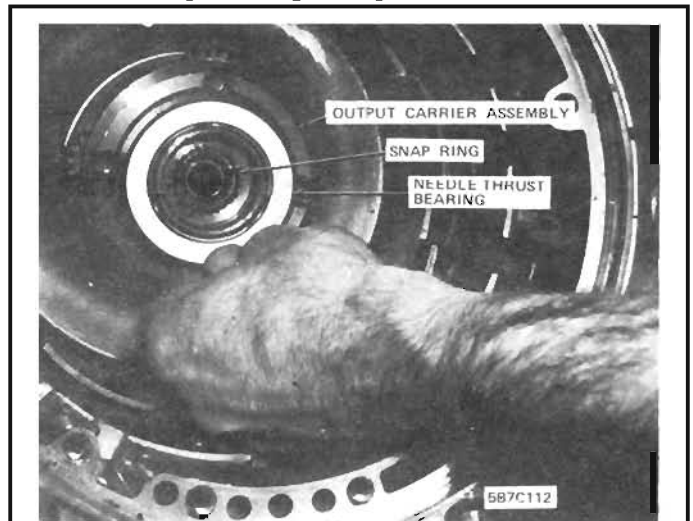

Figure 34 Output Carrier Removal
2. Remove output carrier to output shaft snap ring. See Figure 34.